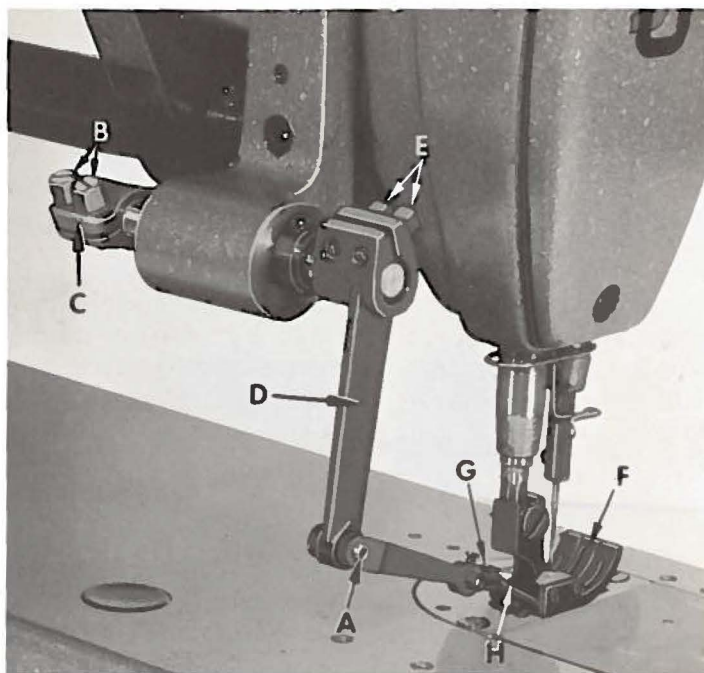
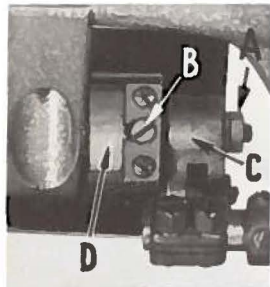

Fig. 28
Fig. 29
- (a) Remove the snap ring from one end of the top-grip-feed drive connecting hinge pin (A, Fig. 28) and withdraw pin. This is to avoid chipping teeth of the presser foot feed dog or the main feed dog while setting the stitch to the required length.
- (b) Loosen nut (A, Fig. 29) (it has a left hand thread).
- (c) Turn screw (B) counterclockwise to its extreme position and retighten nut (A).
NOTE: Be sure that the top feed crank link assembly (C) has equal lateral clearance on both sides, so there is no bind. Should adjustment be necessary, loosen screws (B, Fig. 28) and move the top-grip-feed rocker arm (C) as required. Retighten screws (B).
- (d) Turn handwheel to position the top-grip-feed drive arm (D) at the extreme forward end of its travel.
- (e) Replace the top-grip-feed drive connecting hinge pin (A) and secure with snap ring.
NOTE: It may be necessary to loosen screws (E, Fig. 28) and slightly rotate the top-grip-feed drive arm (D), for alignment to insert the hinge pin. Hold the top-grip-feed drive arm so presser foot feed dog is at its extreme forward position, tighten screws (E).
- (f) With the presser foot (F, Fig. 28) raised slightly, rotate handwheel in operating direction. The presser foot feed dog should be synchronized to move forward or rearward simultaneously with the main feed dog. Should timing be necessary, loosen the two set screws holding the top-grip-feed drive shaft head (D, Fig. 29) to the top-grip-feed drive shaft. While holding the handwheel advance or retard the top-grip-feed drive shaft head (D) as required. Snug-up screws, rotate handwheel in operating direction and observe relationship between upper and lower feed dogs. Repeat timing adjustment as necessary to obtain desired conditions. Retighten screws securely.
- (g) Loosen nut (A, Fig. 29) and turn screw (B) clockwise as necessary to set the stitch length of the top-grip-feed
- (h) As a basic setting, the presser foot feed dog should line up with the main feed dog left to right. The last tooth of the top and bottom feeds should match tooth point to point, in-line-of-feed. This can be accomplished by loosening screws (E, Fig. 28) which will allow forward, rearward or lateral positioning of presser foot as required. Retighten screws (E). A minute adjustment of the presser foot feed dog, from left to right, can be obtained by loosening screws (G) which secures the presser foot feed dog to the connecting rod grip feed hinge (H), position as required and retighten screws (G).